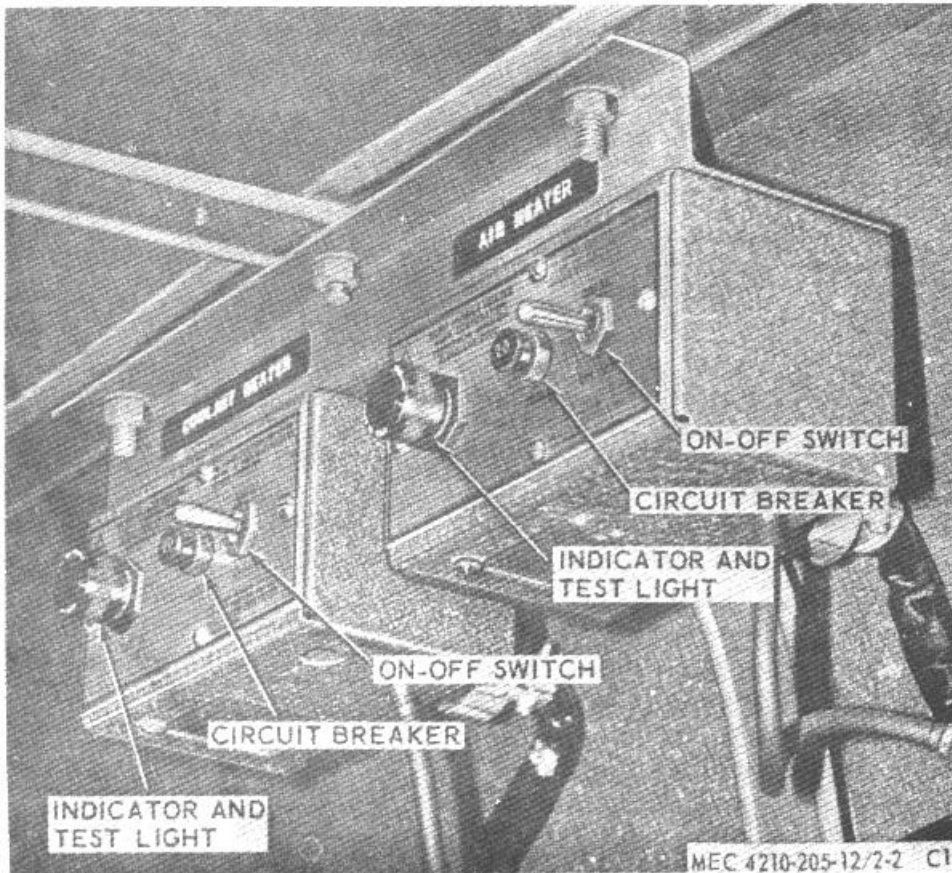

Figure 71.15. Liquid heater and space heater controls.
(1) Depress the lens of the indicator lamp (fig. 71.15) to make sure power is available for operation. If the lamp lights, power is available. If the lamp fails to light when depressed, press the reset button to see if the circuit breaker is tripped, and repeat the test.
(2) Position the control switch to either of the ON positions.